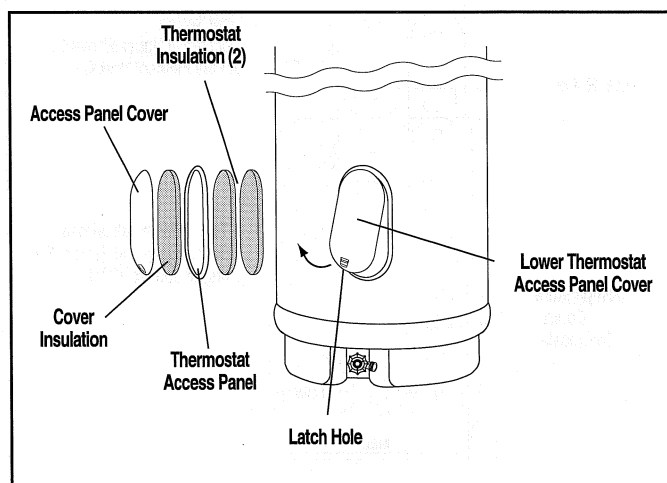

Figure 12 — Removing Lower Thermostat Access panel.
- A. Remove the lower thermostat snap-in access panel cover. Insert finger into latch hole on the bottom of the cover, and push up to release the latch. Then pull forward to remove the cover and insulation. (See Figure 12.)